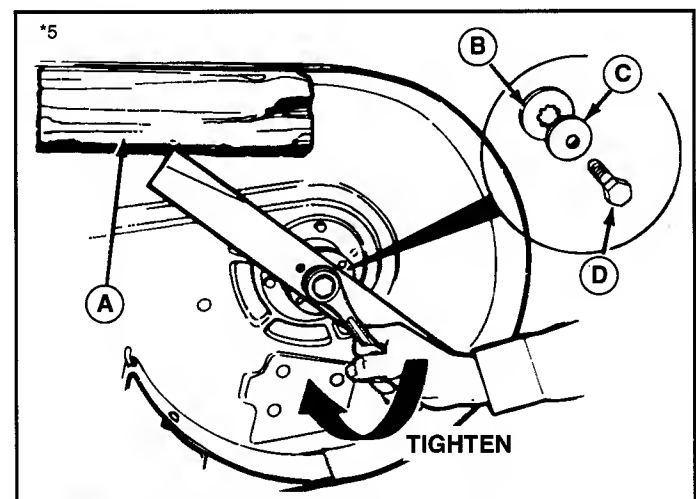

Figure 25. Installing The Blade
6. Reinstall each blade with the tabs pointing up toward deck as shown in Figure 25. Secure with a capscrew (D), cup washer (C) and spline washer (B). Use a wooden block to prevent blade rotation and torque capscrews to 50-70 ft.lbs. (67-95 N.m.).